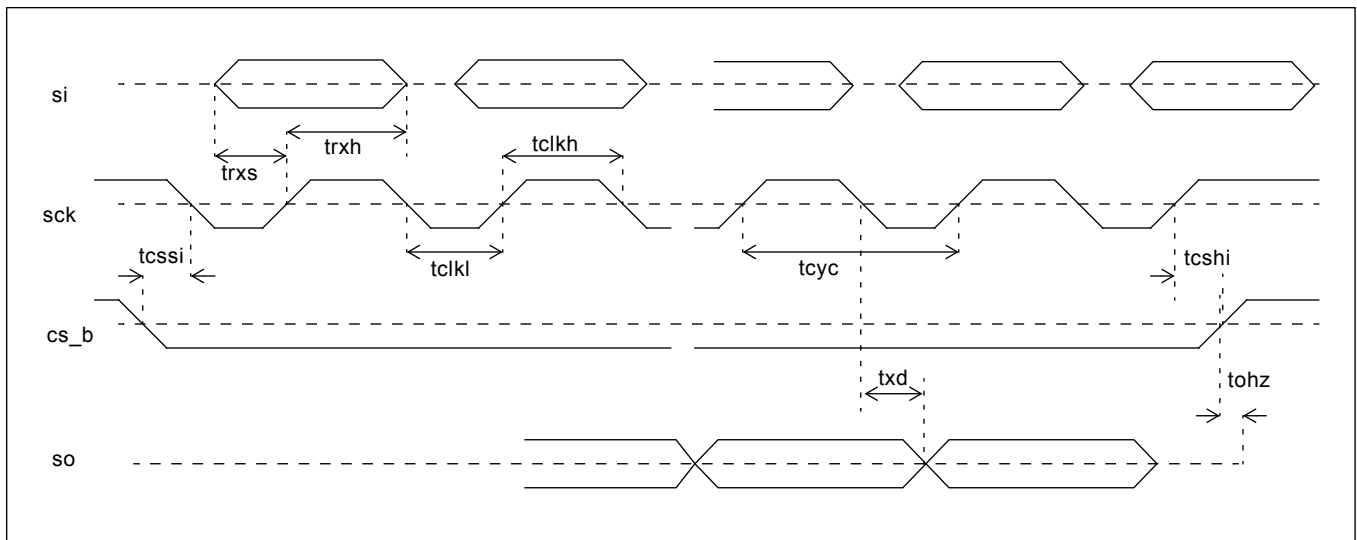

**Figure 33 - Output Timing Referenced To hpclkout0/clkout0**
**AC Electrical Characteristics\* - Outputs (see Figure 33).**